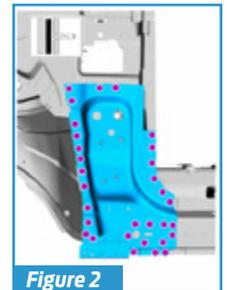

Figure 2
5. Remove the A-pillar reinforcement, using the spot-weld drill bit (**Figure 2**).